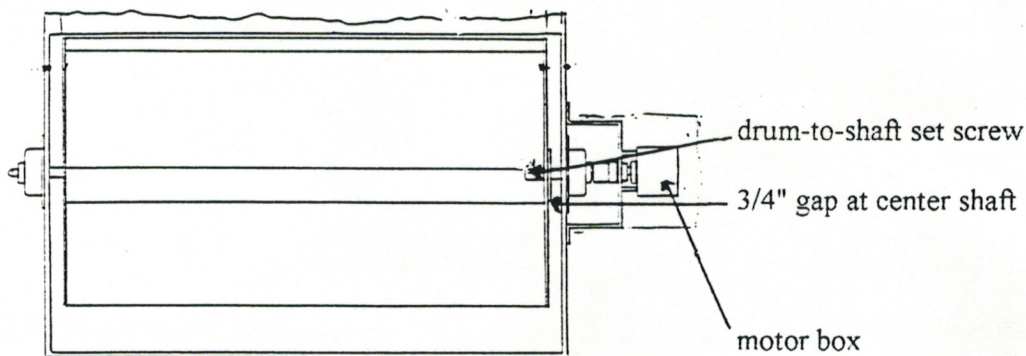

Figure 5 Schematic of drum (top view, looking down at drum and showing drum-to-shaft set screw location)
2. Remove the front boards. You can now look down at the drum on the shaft (see Figure 5).